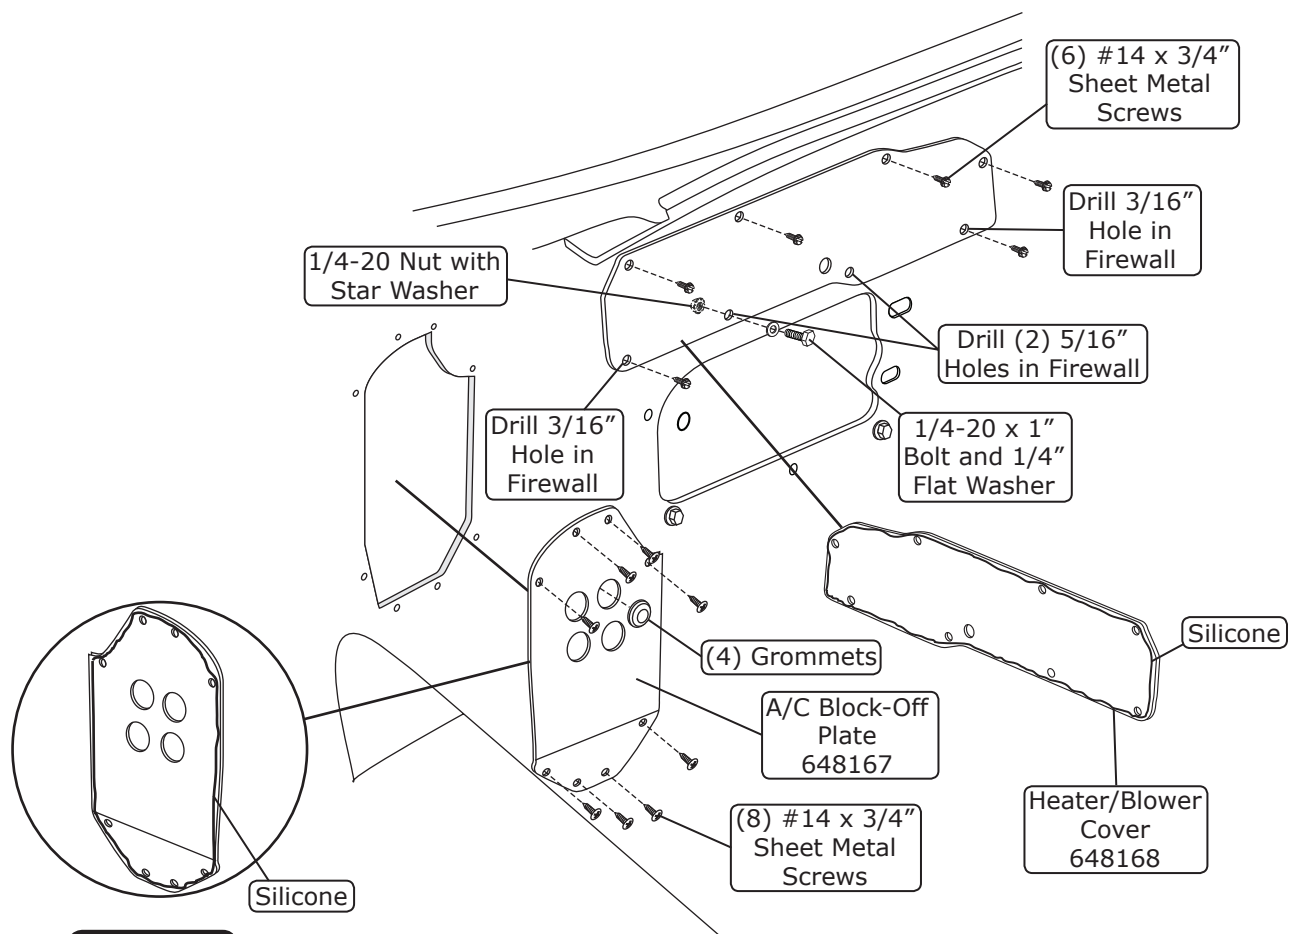

Figure 8a
2. Apply a 1/4" bead of silicone around the mating surface of the A/C block-off plate as shown in Figure 8a, below.